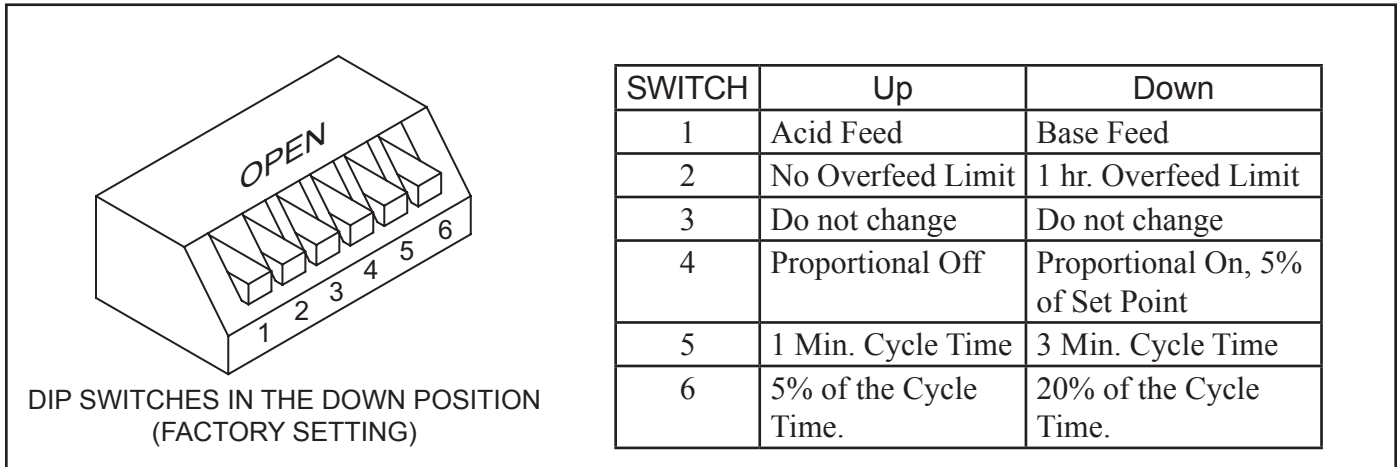

Figure 7. DIP Switch Settings
1. Set the switches on the DIP Switch as to your requirements. (See fig 7.)